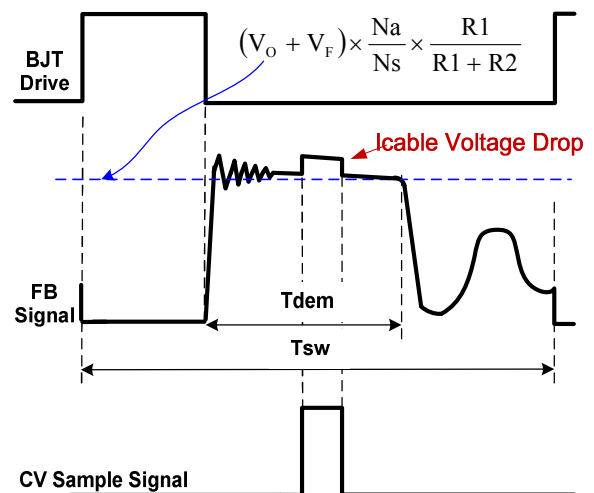

Fig.2
transformer energy to the secondary. Fig.2 illustrates the CV sampling signal timing waveform in DP25131. As shown in Fig.2, it is clear that there is a down slope representing a decreasing total rectifier V_f and its voltage drop as the secondary current decreases to zero. To achieve an accurate representation of the secondary output voltage on the auxiliary winding, the CV sampling signal blocks the leakage inductance reset and ringing. When the CV sampling process is over, the internal sample/hold (S&H) circuit captures the error signal and amplifies it through the internal Error Amplifier (EA). The output of EA is sent to the Primary Side Constant Voltage Modulator (PSR-CVM) for CV control. The internal reference voltage for EA is trimmed to 2V with high accuracy.
During the CV sampling process, an internal variable current source is flowing to FB pin for Cable Drop Compensation (CDC). Thus, there is a step at FB pin in the transformer demagnetization process, as shown in Fig.2. Fig.2 also illustrates the equation for “demagnetization plateau”, where V_o and V_f is the output voltage and diode forward voltage; R_1 and R_2 is the resistor divider connected from the auxiliary winding to FB Pin, N_s and N_a are secondary winding and auxiliary winding respectively.